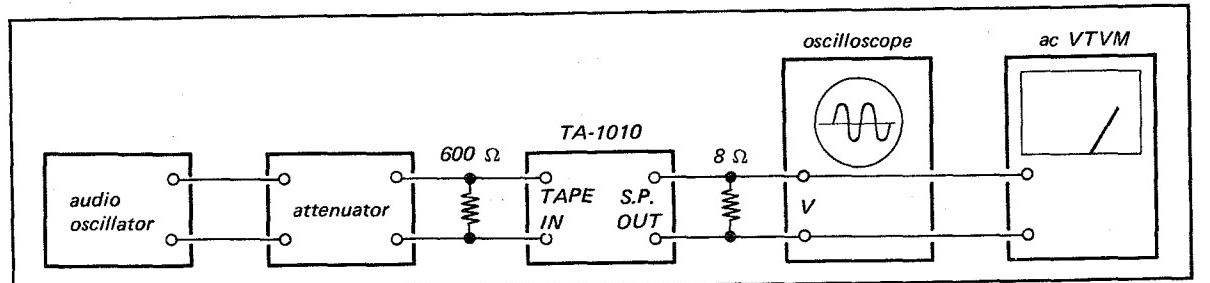

Fig. 5-2 Ac balance adjustment test setup
- With the equipment connected as shown in Fig. 5-2, set the POWER switch to the ON position and feed a 1-kHz, 0.775-V (0 dBm) signal to the TAPE input terminal through the attenuator.